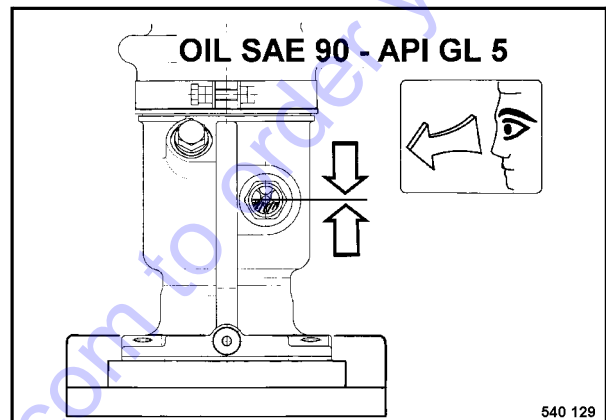

Fig. 2
- Clean the inspection glass (Fig. 2).